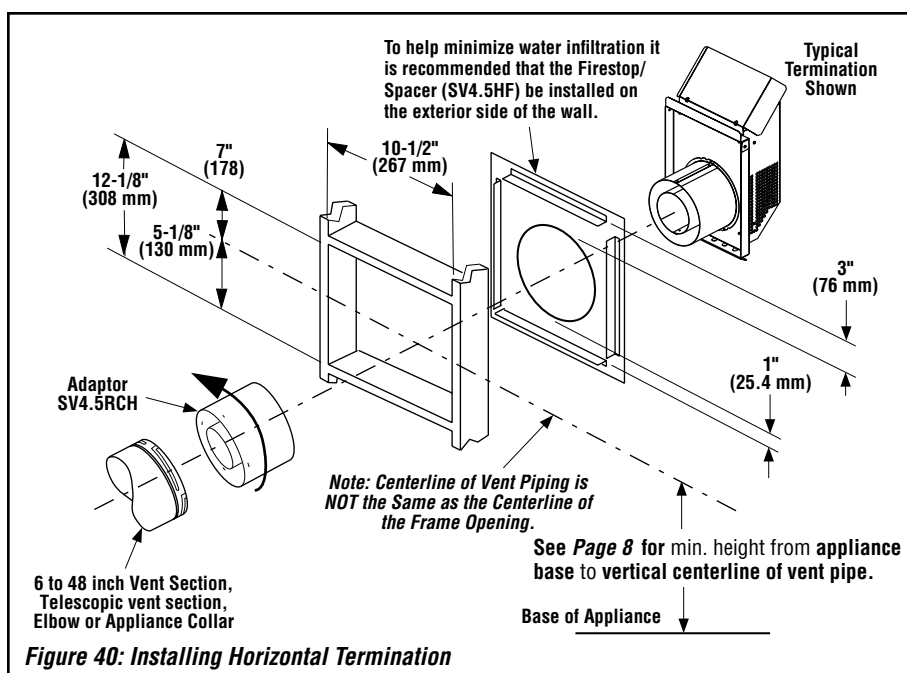

Figure 40: Installing Horizontal Termination
- If not already done, prepare an opening as described in **Figure 40**.
- Assemble the vent system to the point where the end of the last section is within 5 to 8-1/2 inches (127 to 216 mm) inboard of the exterior surface to which the termination will be attached. See **Figure 40 and 41**.
See **Figure 40**. Install the **firestop/spacer** over the opening at the exterior side of the framing, long side up, with the 3-inch spacer clearance at the top, and nail into place. (The firestop/spacer also may be installed over the opening at the interior side of framing).